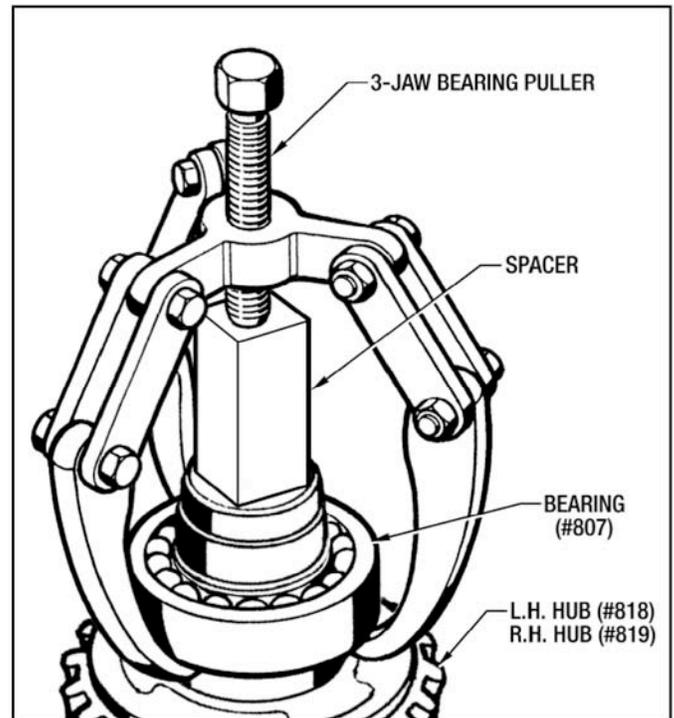

Figure 7.4 - Removing Bearings (#807)
3. Use a standard 3-Jaw Bearing Puller to remove the (2) Ball Bearings (#807) from the Hub as shown in Figure 7.4.